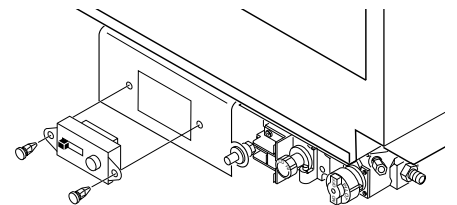

Figure 38 - Installing Remote Receiver
4. Place receiver into valve bracket and align holes (see Figure 38).